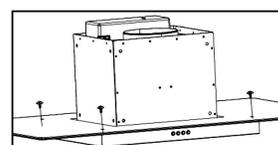

fig.11
5. If the glass canopy has not been pre-assembled by the factory, then it should be fixed to the top of the main body of the cooker hood at this stage (also see fig.11 on the right)